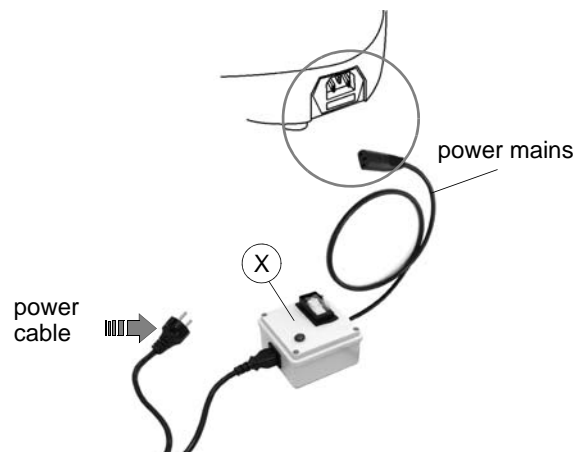

Fig. 9
Connect the safety device (X) to the key-cutting machine with the power cable then connect the free end of the cable to the power mains (fig. 9).